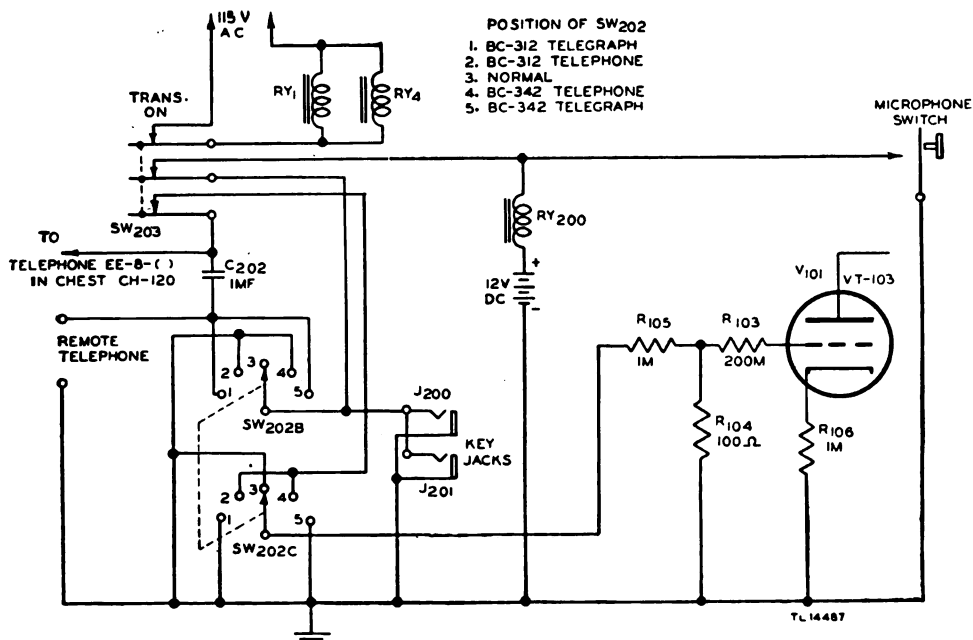

Figure 87. Transmitter control switch in TRANS. ON position—functional diagram.
(2) When switch SW_{203} is set to the TRANS. ON position, the B section of switch SW_{202} (fig. 87) operates keying relay RY_{200} (for remote phone operation), or connects the keying relay to the ungrounded REMOTE TELEPHONE terminal of the junction box for remote keying of the transmitter.
(3) When switch SW₂₀₃ is set to the TRANS. ON position, the C section of switch SW₂₀₂ (fig. 87) switches the input of the speech amplifier to the REMOTE TELEPHONE terminals of the junction box for remote modulation of the transmitter.
b. TELEGRAPH POSITIONS (fig. 87). When switch SW₂₀₂ is set to either TELEGRAPH position and switch SW₂₀₃ is set to TRANS. ON, switch SW_{202B} connects keying relay RY₂₀₀ to the REMOTE TELEPHONE terminals of the junction box. The transmitter can then be keyed from the far end of a telephone line connected to the REMOTE TELEPHONE terminals. When switch SW₂₀₃ is set to REC. TO EE-8, switch SW_{202A} connects the a-f output from Radio Receiver BC-312-() or BC-342-() to the telephone line. This enables the operator at the remote station to hear the signals received by either receiver. The choice of receivers depends on whether switch SW₂₀₂ is set to the BC-312 or BC-342 position. Switch SW_{202C} grounds the Telephone EE-8 input to the speech amplifier. Capacitor C₂₀₂ isolates the a-f circuits in the junction box from the d-c circuits.
c. TELEPHONE POSITIONS (fig. 87). When switch SW₂₀₂ is set to either TELEPHONE position and switch SW₂₀₃ is set to TRANS. ON, switch SW_{202B} completes the d-c circuit through relay RY₂₀₀, and switch SW_{202C} connects the REMOTE TELEPHONE terminals (through capacitor C₂₀₂) to the Telephone EE-8 input to the speech amplifier. This enables the operator at the remote station to voice modulate the transmitter by speaking into the microphone of the Telephone EE-8-() at the remote station. When switch SW₂₀₃ is set to REC. TO EE-8, switch SW_{202A} connects the a-f output from either radio receiver to the telephone line. This enables the operator at the remote
d. NORMAL POSITION (fig. 87). When switch SW₂₀₂ is set to NORMAL, switch SW_{202C} grounds the Telephone EE-8 input to the speech amplifier.